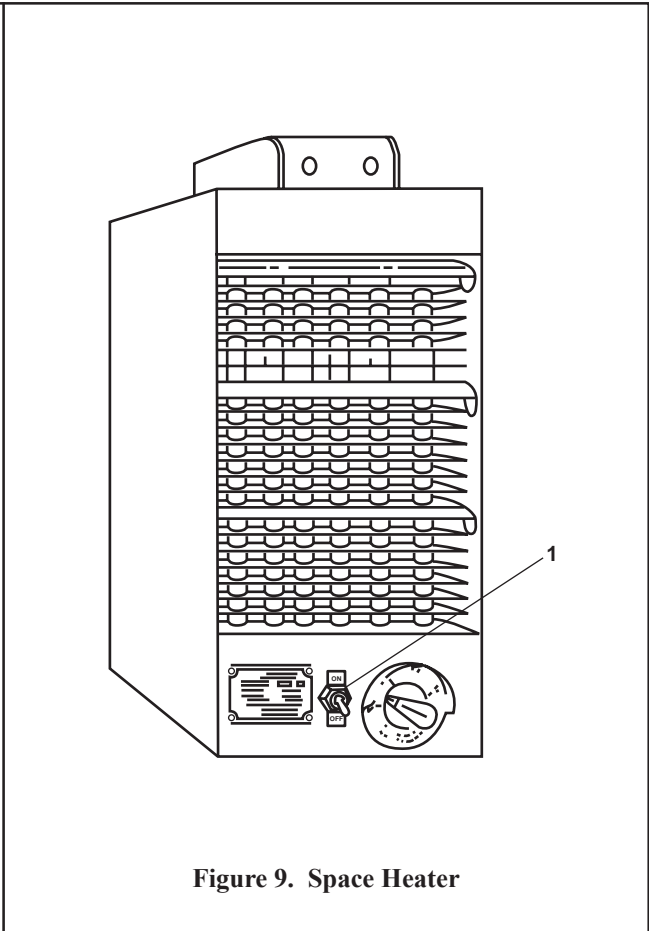

Figure 9. Space Heater
4. Position all space heater ON-OFF switches (figure 9, item 1) to OFF.